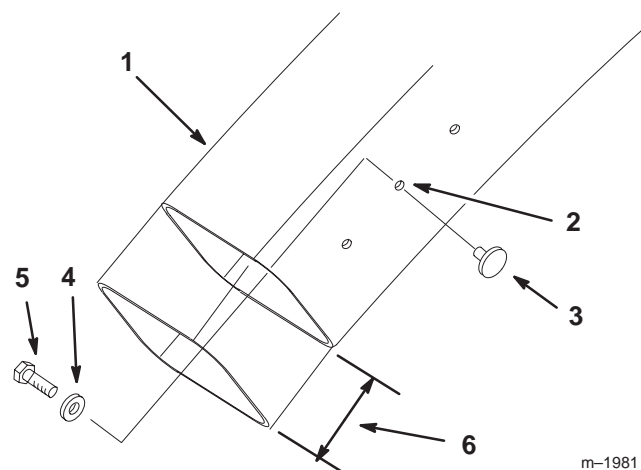

Figure 15
1. Cut 2-3/4 inches (7 cm) off the bottom of the discharge tube (Fig. 15).
2. Attach the knob to the center hole in the discharge tube and secure with a washer (7/32 inch) and screw (#10 x 5/8 inch) (Fig. 15).